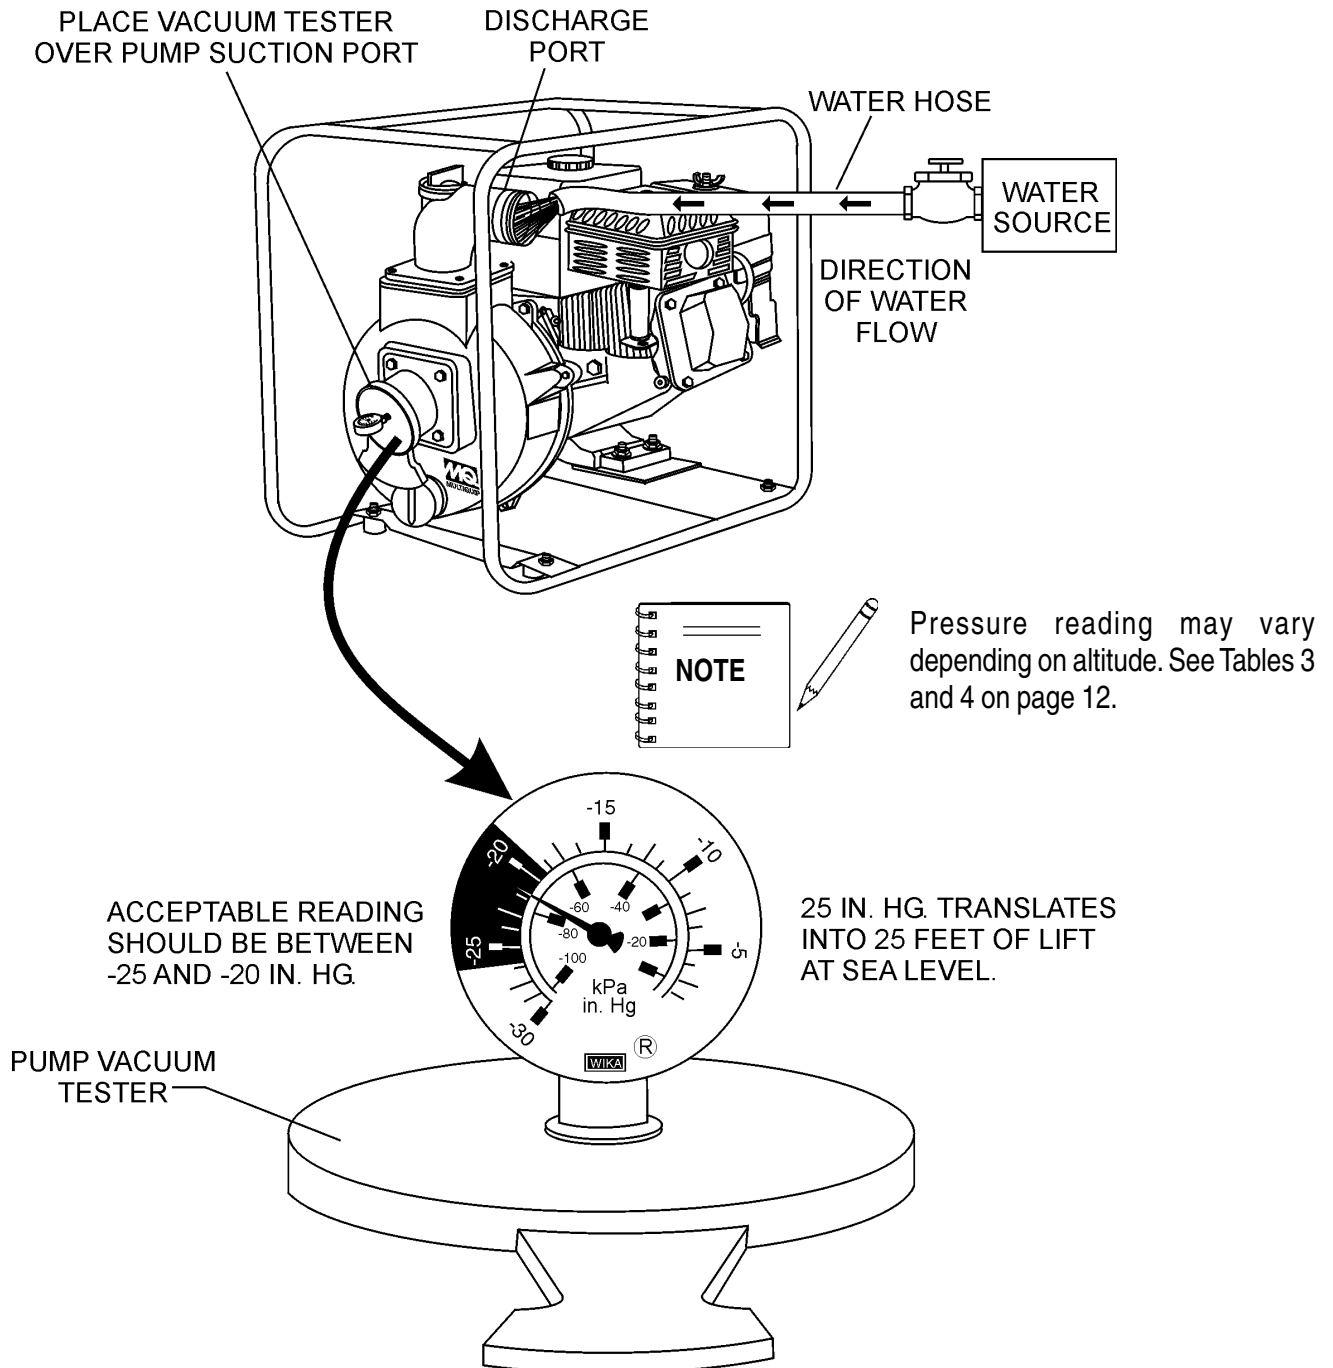

Figure 17. Pump Vacuum Tester
3. As shown in Figure 17 (next page), place a water hose inside the discharge opening of the pump, and turn on the water. This flow of water into the discharge opening will **prevent** the pump from running dry.
4. Place the **Pump Vacuum Tester** (P/N 7000030) over the pump suction (inlet) opening (Figure 17) with the vacuum gauge facing upwards. It may be necessary to apply a small amount of water around the rubber seal of the vacuum tester to make a good suction fit.